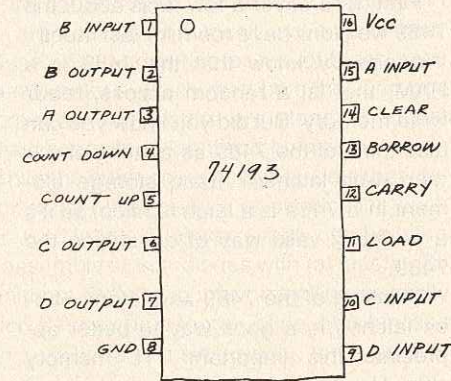

Fig. 4. 74193 pin diagram.
**Programming.** Let's discuss programming procedures for the RAM demonstrator. Programming is semi-automatic since the 7490 address pointer (see Figure 4 in last month's column)
**Improving the Demonstrator.** Since we're using a decade counter as an address pointer, we can only gain access to ten of the sixteen storage slots in the 7489. You can remedy this by replacing the 7490 address pointer (and the 7490 data loader if you want to load (1010 through 1111) with a 74193 4-bit (0000-1111) counter. Figure 4 is the pin diagram for this chip.